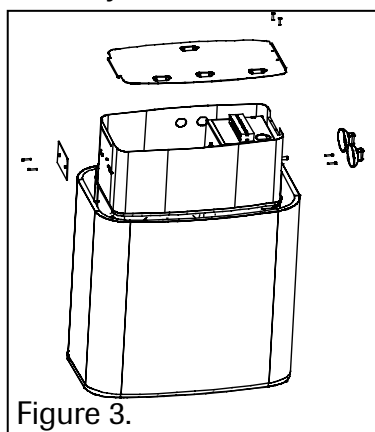

Figure 3.
- Open the optional adjuster's cover plate's screws which are on the other side of the junction box (Figure 3).